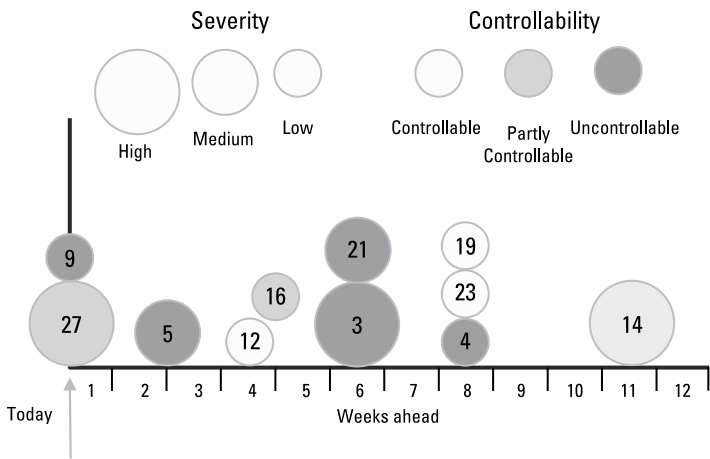

Figure 20-3: Risk Proximity Frame
- ❑ **Risk Proximity Frame:** A constantly changing diagram as you keep it up to date. The left hand side of the frame is 'today' and the x axis is then time into the future. You model different risks according to their severity, showing them in different sized circles. You can then see how soon the risks can affect the project and how significant they are. You might, for example, see that there are a lot of high-severity risks that are now just six weeks away. As a refinement you can go on to colour code the circles to show which risks are very controllable, which are partly controllable and which ones can't be controlled at all (such as weather conditions). Figure 20-3 shows an example.